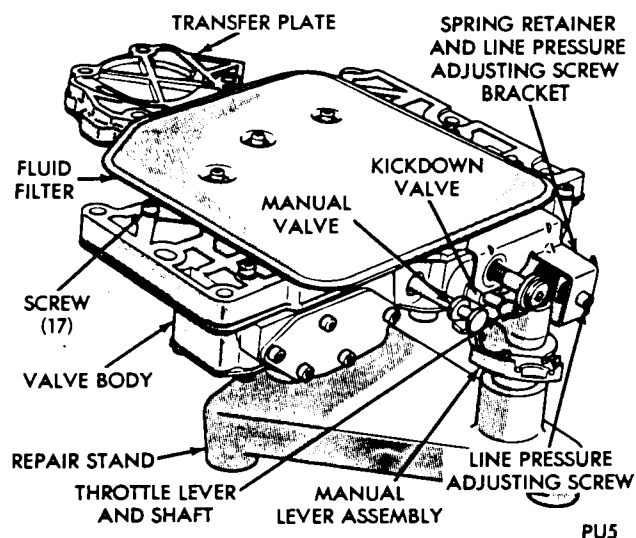

Fig. 1—Valve Body Assembly
(1) Place valve body assembly on repair stand Tool C-3749 (Fig. 1). Remove 3 screws from fluid filter and lift off the filter.
(2) Remove top and bottom screws from spring retainer and adjustment screw bracket.
(3) Hold spring retainer firmly against spring force while removing last retaining screw from side of valve body.
(4) Remove spring retainer, with line and throttle pressure adjusting screws (do not disturb setting) and the line pressure and switch valve regulator springs.
(5) Slide switch valve and regulator valve out of their bores.
(6) Remove screws from lock-up module (or stiffener plate) and carefully remove tube and lock-up module (or stiffener plate). Disassemble lock-up module, tagging springs. **Non lock-up A-904T, for California models, use an empty lock-up body instead of a stiffener plate.**
(7) Remove transfer plate retaining screws and lift off transfer plate and separator plate assembly.
(8) Remove lock-up solenoid retaining screw and